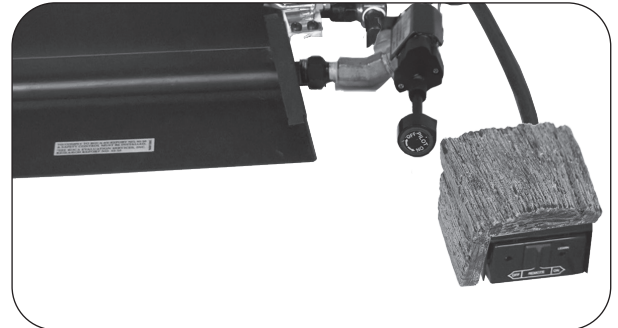

Fig. 9-2 Place decorative heat shield
4. Place the decorative heat shield over the remote receiver (see Fig 9-2).